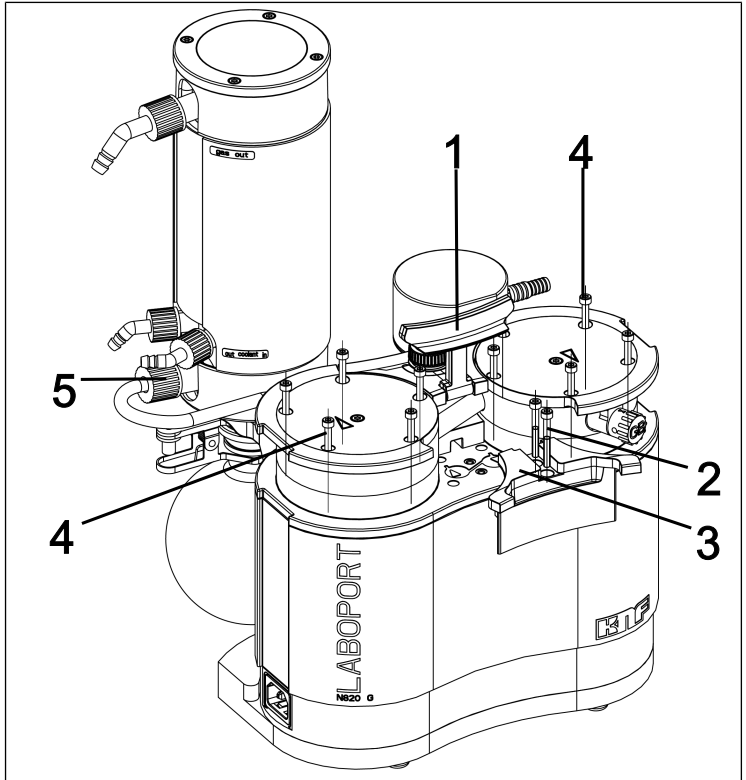

Fig.12: Remove handle cover
3. Remove the union nut of the hose connection (5/ Fig. 12) from the vacuum system components.
4. Put the handle (1/ Fig. 12) into a vertical position.
5. Loosen the two screws (2/ Fig. 12) of the handle cover (3/ Fig. 12).
6. Remove the handle cover (3/ Fig. 12).
7. Loosen the 10 external head screws (4/ Fig. 12) on both pump heads.
8. Remove the 10 external head screws (4/ Fig. 12) from both pump heads.
1. Mark the pressure plate (2), head plate (3) and intermediate plate (6) with a continuous pencil stroke. This prevents the parts from being incorrectly mounted later on.
2. Remove the external screws (4/Fig. 12) of the pump heads.
9. Insert the 10 external screws (**4**/Fig. 12) in the pump head and tighten them in a crosswise pattern (tightening torque: SH/SR820G: 4 Nm; SR/SH840G: 5 Nm)
- i** If the external screws (**4**/Fig. 12) cannot be inserted into the pump head, loosen the internal head screw (**1**) and check the seating of the head plate (**3**) on the intermediate plate (**6**).
11. Hand-tighten the union nut of the hose connection (**5**/Fig. 12) on the high-performance condenser (**2**/Fig. 3).
1. Mount the handle cover (**3**/Fig. 12).
2. Tighten the screws (**2**/Fig. 12) of the handle cover (**3**/Fig. 12) (tightening torque: 2 Nm).